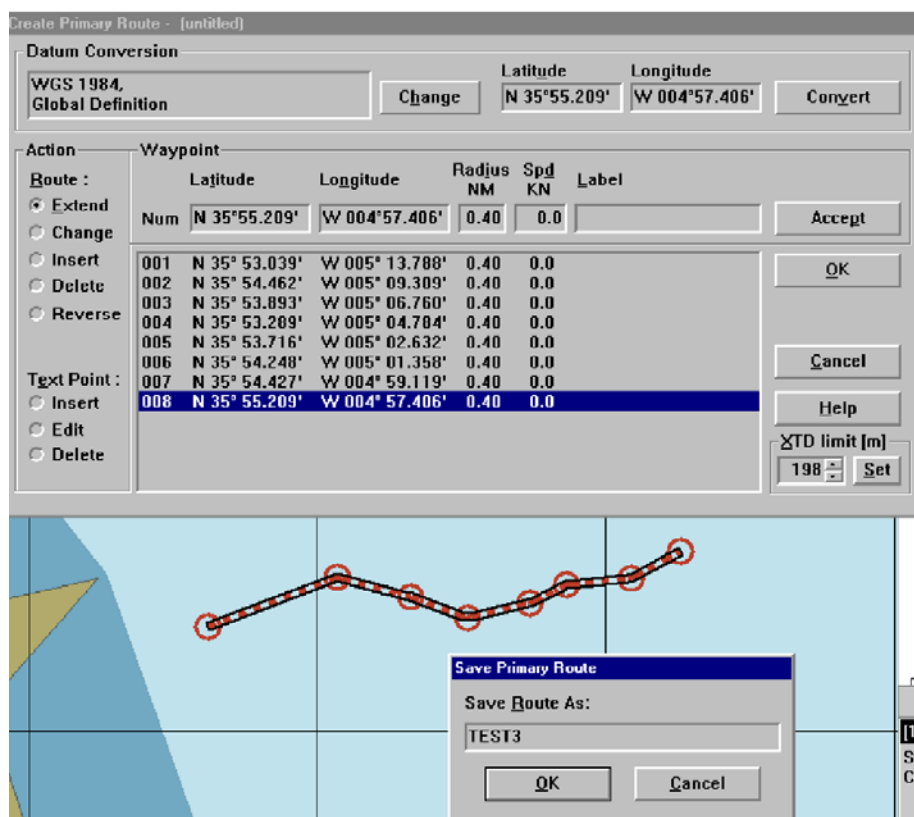

Fig. 1-7 Save Route Dialogue Box
6. Click on *OK*. The Save Route dialogue box appears, Fig. 1-7.
10. Click on *Quit*. The Save Route dialogue box appears, Fig. 1-7.